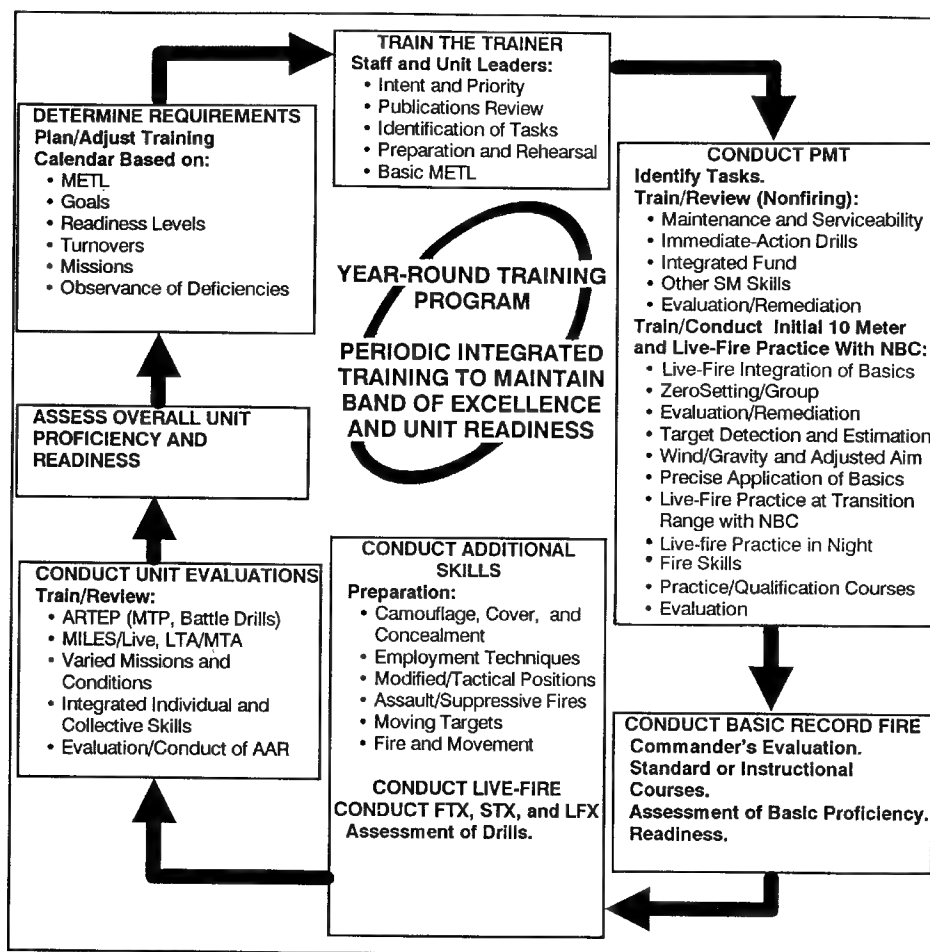

Figure 4-1. Unit marksmanship sustainment strategy.
c. The training strategy for machine gun marksmanship begins in the institutions and continues in the unit. Figure 4-1, illustrates an example of this overall process, which provides a concept of the flow of unit sustainment training. Combat arms IET provides field units with soldiers who are familiar with standards in basic marksmanship tasks. The soldiers graduating from these courses have been trained to maintain their machine guns and to hit a variety of targets. They have learned range determination, target detection, application of marksmanship fundamentals, and other skills needed to engage a target.